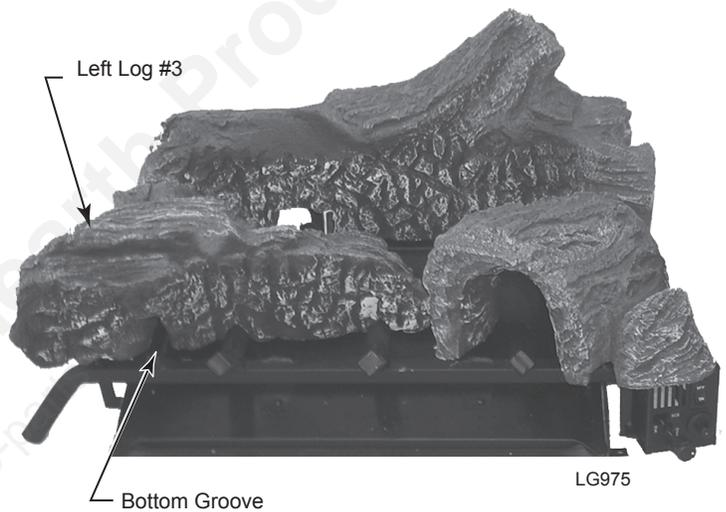

Figure 12
3. Install the left log (#3) with its bottom groove resting on the right side of the grate bar. Slide the log back until touching the rear log (#1). Visually check to verify the log is resting on the grate. *Figure 12*